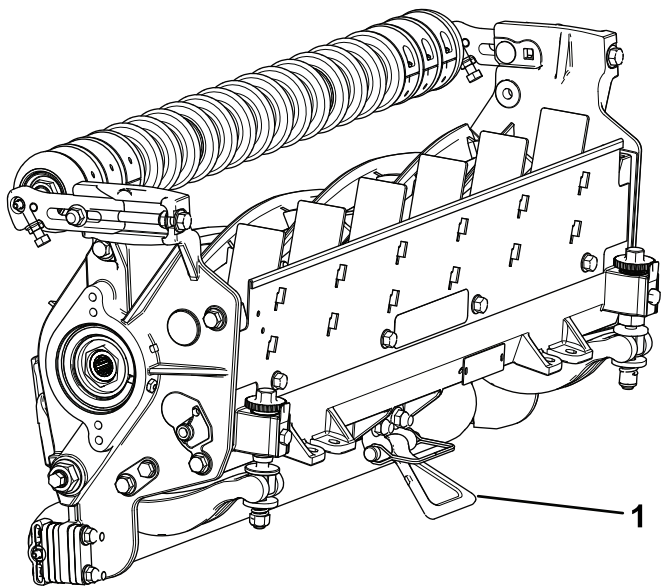

Figure 13
**Important:** Make sure that the nuts on the back end of the bedbar-adjusting screws are not resting on the work surface; use the kickstand (Figure 13).